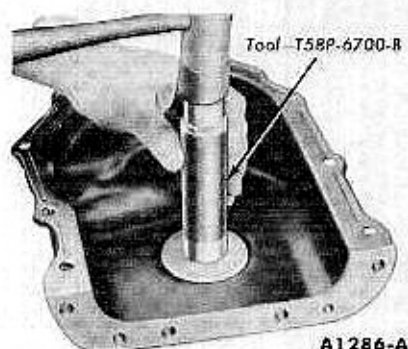

FIG. 45—Oil Seal Installation
2. Coat a new seal with grease. Install the seal (Fig. 45).